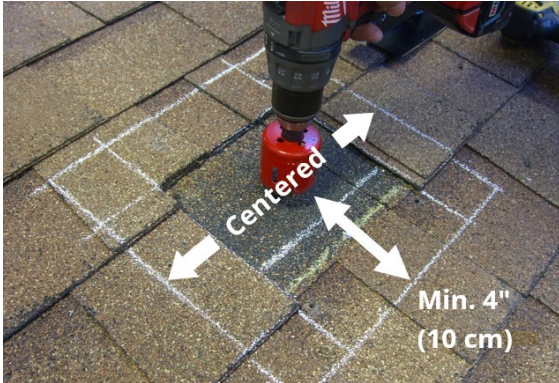

Fig. B5
8. Through the roof surface from which you removed material, drill a single pass-through hole no larger than 5 cm (2"), centered E-W, and no less than 4" (10 cm) from the lower edge of the flashing (Fig. B5).